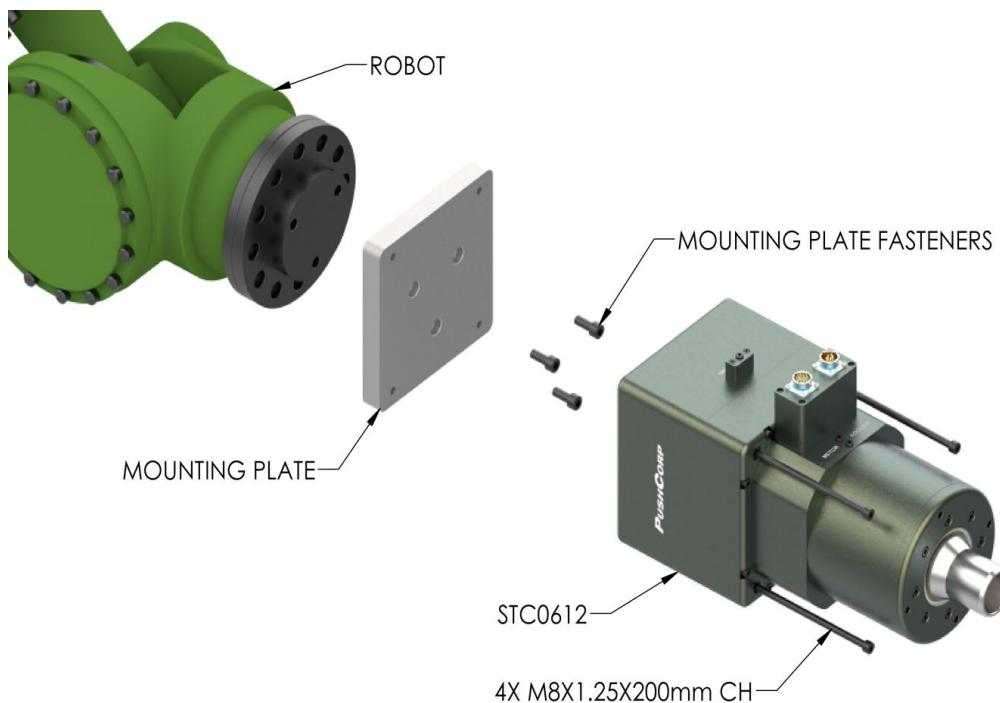

FIGURE 4: STC0612 DIRECT MOUNTING
To mount the 0612 Series, first attach the Intermediate Mounting Plate to the Robot Mounting Flange or to the Breakaway Clutch, per the manufacturer's specifications. Once the Mounting Plate is secured, place the 0612 Series against the Intermediate Mounting Plate and install (4) four, M8x1.25 Socket Head Cap Screws. (See Figure 4) Tighten the fasteners to the torque specified in Section 4.0.